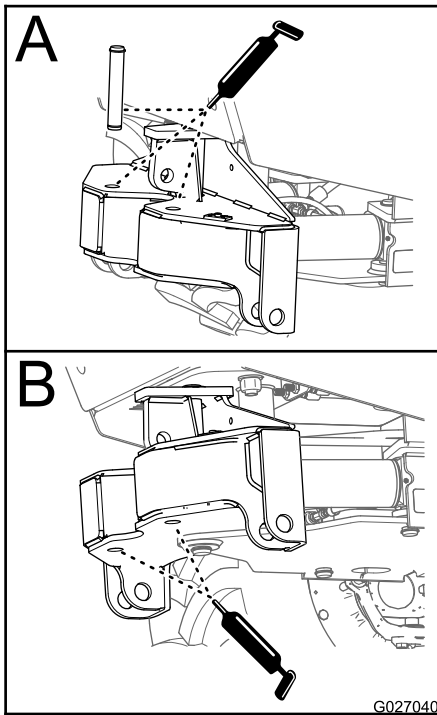

Figure 28
2. Apply a coat of the specified grease to the pins (1-1/4 x 7-5/8 inch) and the inside diameter of the holes in the upper and lower plates for the pivot frame (Figure 28).
3. Align the mounting holes in the pivot frame with the holes in the rod fitting for the cylinder (Figure 28).